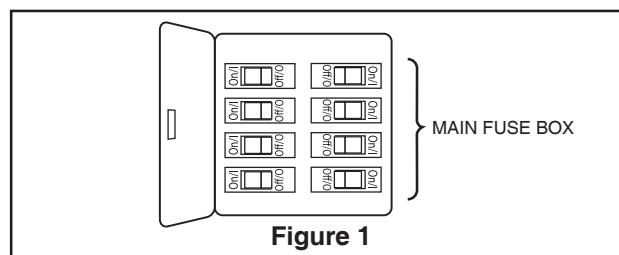

Figure 1
- ☐ 1. Restore electrical power to the outlet box by turning the electricity on at the main fuse box. (Figure 1)
1. Unthread two screws from the wall switch plate. (Figure 1)